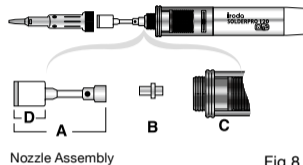

Fig.8
2. Unscrew **Nozzle Assembly (A)** from the **Torch Body (C)**. (Fig. 8) Pliers may be used to lightly grasp the shank in order to loosen it. **Do not** grasp and turn the **Ceramic Head (D)**
3. Carefully remove **Orifice connector (B)** by lifting it out of the torch body. Note that the shorter side of Orifice Connector fits into the Torch Body.
5. Replace new (or clean) Orifice connector (B) remembering to insert the **shorter side into the Torch Body**.